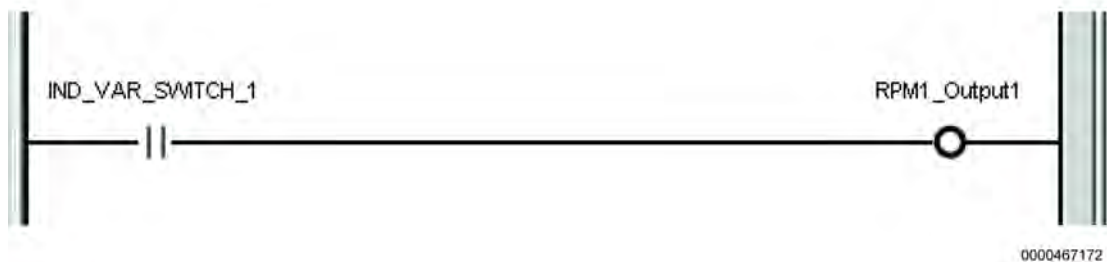

Figure 48 Turning ON RPM1_Output1 when the Independent Variable is ON
25. In the RPM tabs, find the output that the switch will control and drag it to the right side of the rung. Figure 48 shows output 1 on RPM 1 being used for this purpose.